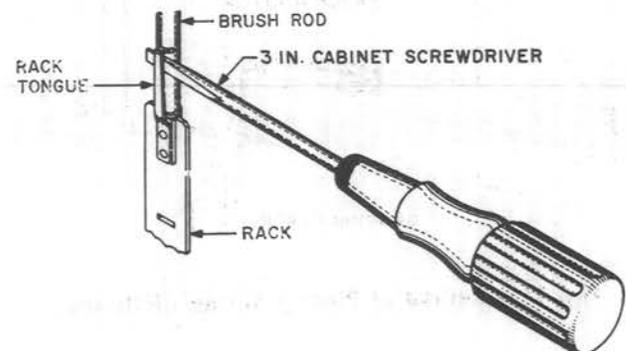

Fig. 10—Method of Removing Rack From Brush Rod
3.17 Uncouple the brush rod from the rack by inserting the blade of the 3-inch cabinet screwdriver between the rack tongue and brush rod as shown in Fig. 10, and turn the screwdriver just enough to disengage the tongue from the brush rod slot.